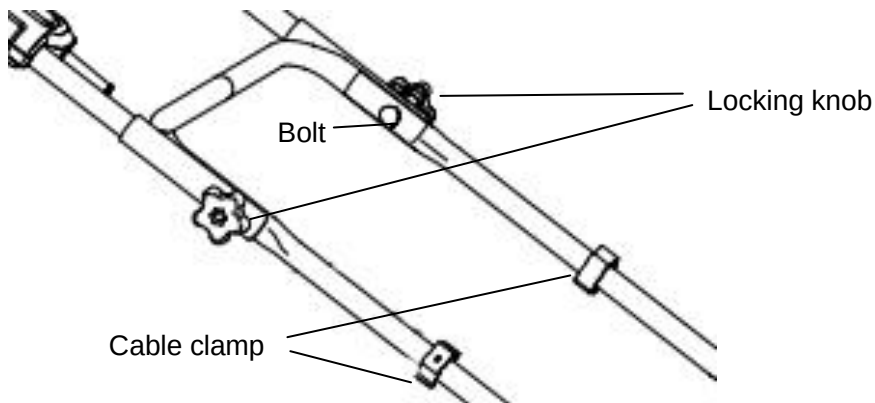

Fig. 2C
3. Fix the upper handle and lower handle with bolts and locking knobs. (Fig.2C)
4. Attach the cable clamp to the position shown and then attach the cable. (Fig.2C)